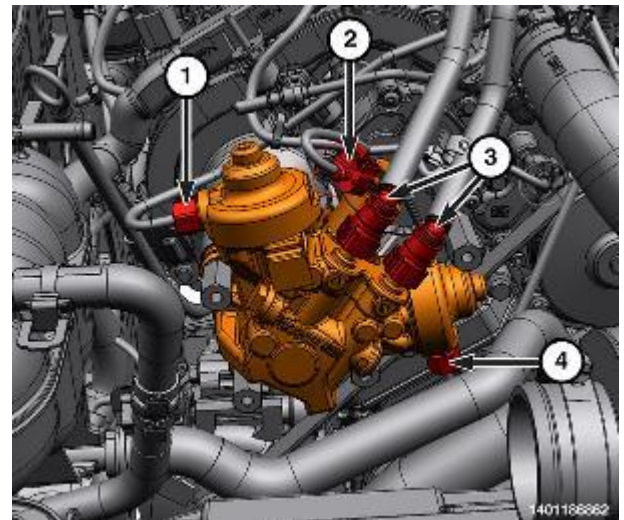

Figure 37 – HPFP Electrical Connector
- 68. Disconnect the fuel injection pump electrical connector (2) (Figure 37).
- 69. Disconnect the low-pressure fuel supply and return lines (3) (Figure 37).
- 70. Unscrew the union nuts for the fuel rail supply tubes (1 and 4) (Figure 37).
- 71. Disconnect the fuel quantity solenoid wire harness connector (2) (Figure 37).
85. Connect the fuel injection pump electrical connector (2) (Figure 37).